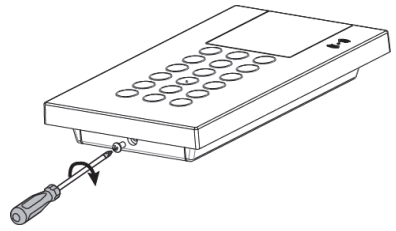

Figure 5
6. Insert the fastening screw to lock the keypad (see Figure 5).